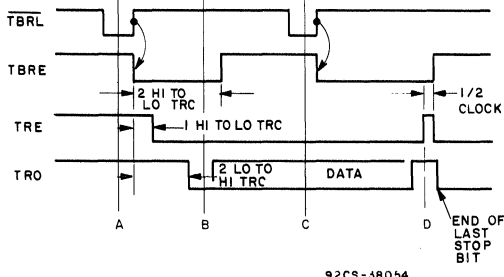

Fig. 3 - Transmitter timing waveforms.
Transmitter timing is shown in Fig. 3. (A) Data is loaded into the transmitter buffer register from the inputs TBR1 through TBR8 by a logic low on the  $\overline{TBRL}$  input. Valid data must be present at least  $t_{DT}$  prior to, and  $t_{DD}$  following, the rising edge of  $\overline{TBRL}$ . If words less than 8 bits are used, only the least significant bits are used. The character is right justified into the least significant bit, TBR1. (B) The rising edge of  $\overline{TBRL}$  clears  $\overline{TBRE}$ . One Hi to Lo transition of TRC later, data is transferred to the transmitter register and  $\overline{TRE}$  is cleared.  $\overline{TBRE}$  is reset to a logic High one Hi to Lo transition after that.